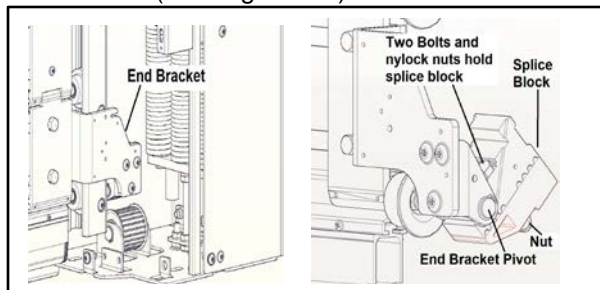

Figure 57
7. Loosen the hex head bolts on the end bracket to release the secondary drive belt from the splice block. The splice block pivots to allow the panels to enter the radius at the top of the side column. (See Figure 57.)